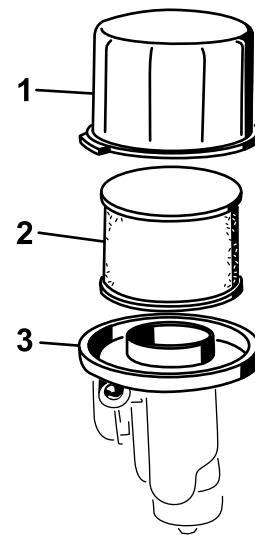

Figure 22
3. Remove the cover and clean it thoroughly (Figure 22).
4. Remove the foam pre-filter from the paper filter (Figure 22), and replace the paper filter if it is excessively dirty.